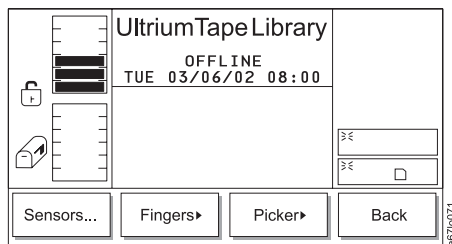

Figure 4-147. Diags Submenu
3. Press the button below the **Diags** softkey. The Diags Submenu displays (see Figure 4-147).